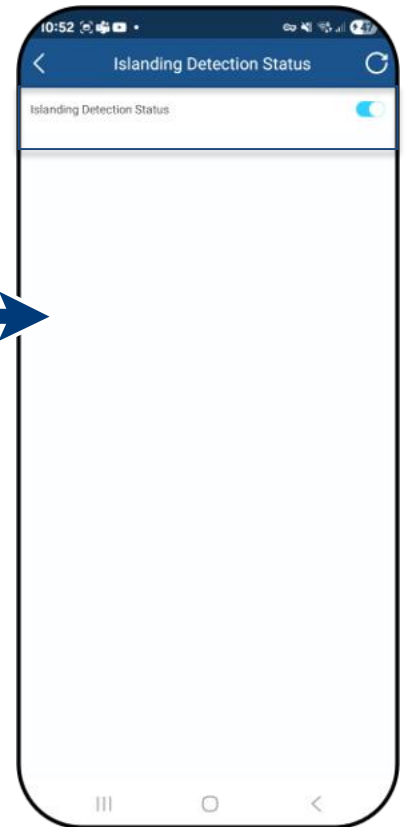
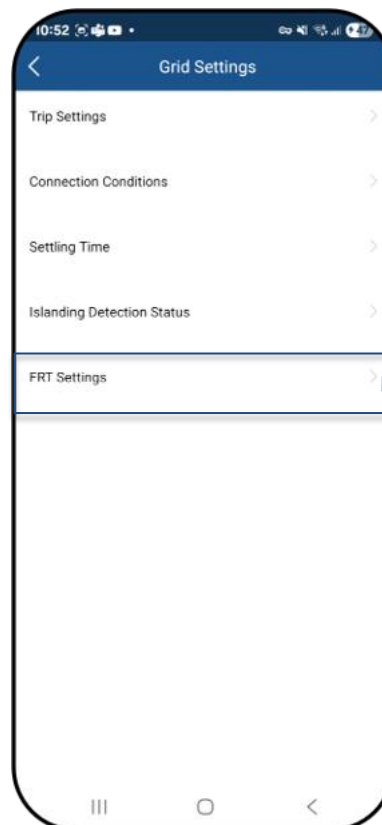

Fig. 127. Set insulation resistance and DC parameters
Fig. 128. Choose FRT-Settings
**Legend for Fig. 127+Fig. 128:**  $f_n$ : Nominal frequency;  $f_{reset}$ : Reset frequency;  $f_{start}$ : Start frequency;  $f_{stop}$ : Stop frequency;  $\Delta P$ : Active power in % during reduction